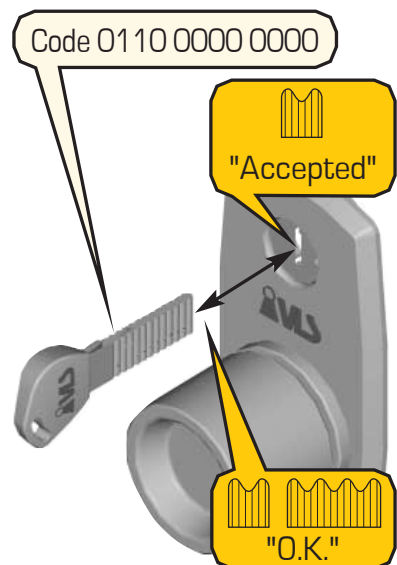

Figure 25 – Resetting memory cells
2. Set the "Resetting Operation Codes" operation code 0110 0000 0000 on the key (fig. 25).